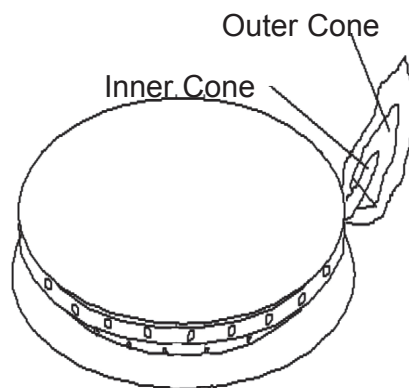

Figure 28
- Check the quality of the flame. The top burners should have a steady, relatively quiet flame with a 1/2" (13mm) sharp blue cone. There should be no orange flame. The oven burner should have a clean blue flame with inner cones of 1/4" to 1/2" (6.35mm to 13mm). See Figure 28. If everything checks out, you're "cooking with gas". If not, refer to the trouble shooting guide, Page 34.